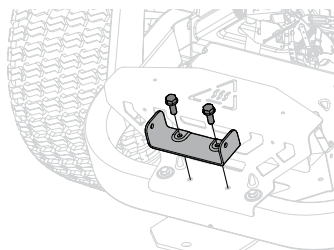

Figure 4
- Align lower bracket (789-04279) with the holes on the lower rear tube of tractor frame with side flanges pointing up, secure with two self-tapping hex head screws (710-1238). See Figure 4.